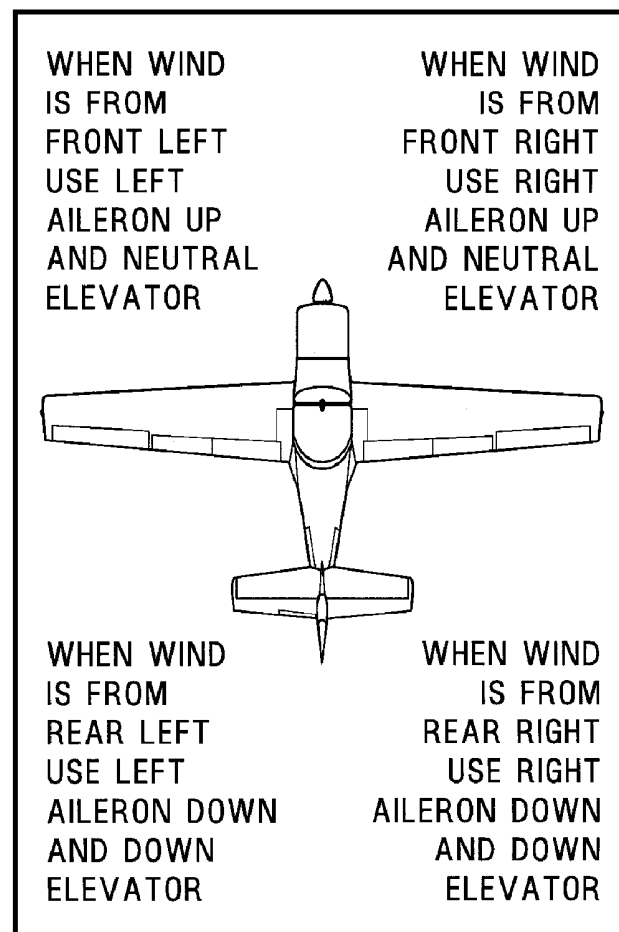

Figure 1.1. Taxiing in Wind.
1.6.10. The direction of the wind is an important consideration when taxiing. Although the aircraft is very stable on the ground with its wide wheel base, wing design, and nose-wheel steering, always be alert for the direction of the wind and use caution when taxiing into propeller wash or jet blast. As the wind strikes the side of the fuselage and rudder, the aircraft will have the tendency to turn into the wind. Nose-wheel steering is sufficient to maintain directional control in all but extreme crosswinds. In high or gusty wind conditions, proper use of the ailerons and elevator will help control the aircraft while taxiing. See figure 1.1 on how to properly position the flight controls while taxiing the aircraft.